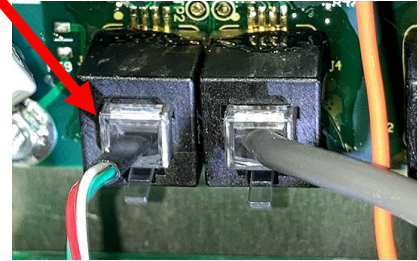

Figure 7
7. Disconnect the RJ11 KCCM CAN/power Harness (see Figure 7) from the FIB board.